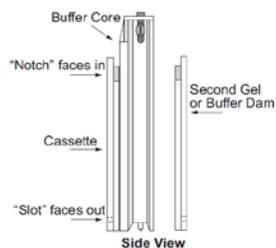

Figure 1: Upper chamber assembly
7. _____ Assemble Novex mini cell as shown in Figure 1 and 2. The upper chamber is formed by the buffer core and the two gels (or one gel and buffer dam).